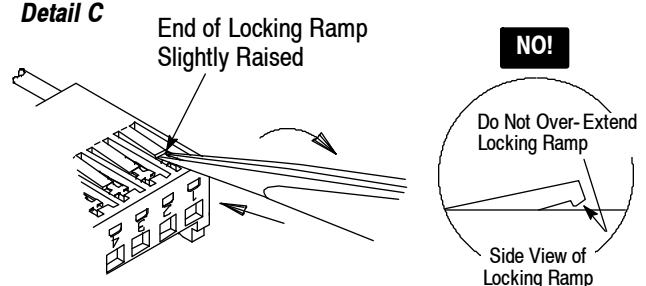

Figure 2
2. Grasp the wire, and push the contact toward the front (mating end) of the housing so that the locking tab is away from the locking ramp. See Figure 2, Detail A.
3. While keeping the contact in place, position the tweezer over the contact so that the tips straddle the locking tab. See Figure 2, Detail B.
4. Slightly squeeze the tweezer, and slide the tweezer tips along the locking ramp. *Slowly* pivot the tweezer downward so that the end of the locking ramp raises slightly, only enough to clear the contact locking tab. See Figure 2, Detail C.